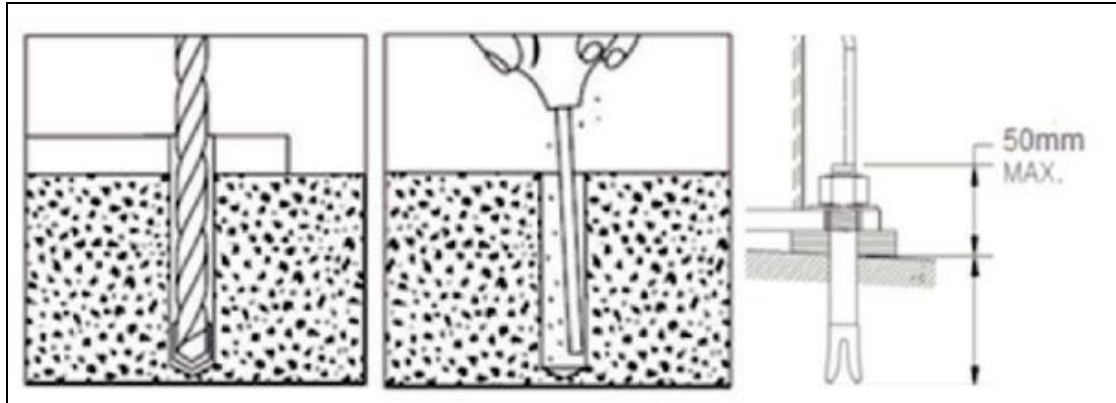

Figure 5
7.4 Place the main column, drill a hole with an impact drill, clean the residual dust in the bolt hole with a vacuum cleaner, and hammer the expansion bolt into the hole. The height of the exposed ground of the expansion bolt should not be more than 50mm, and do not tighten the nut (Figure 5).